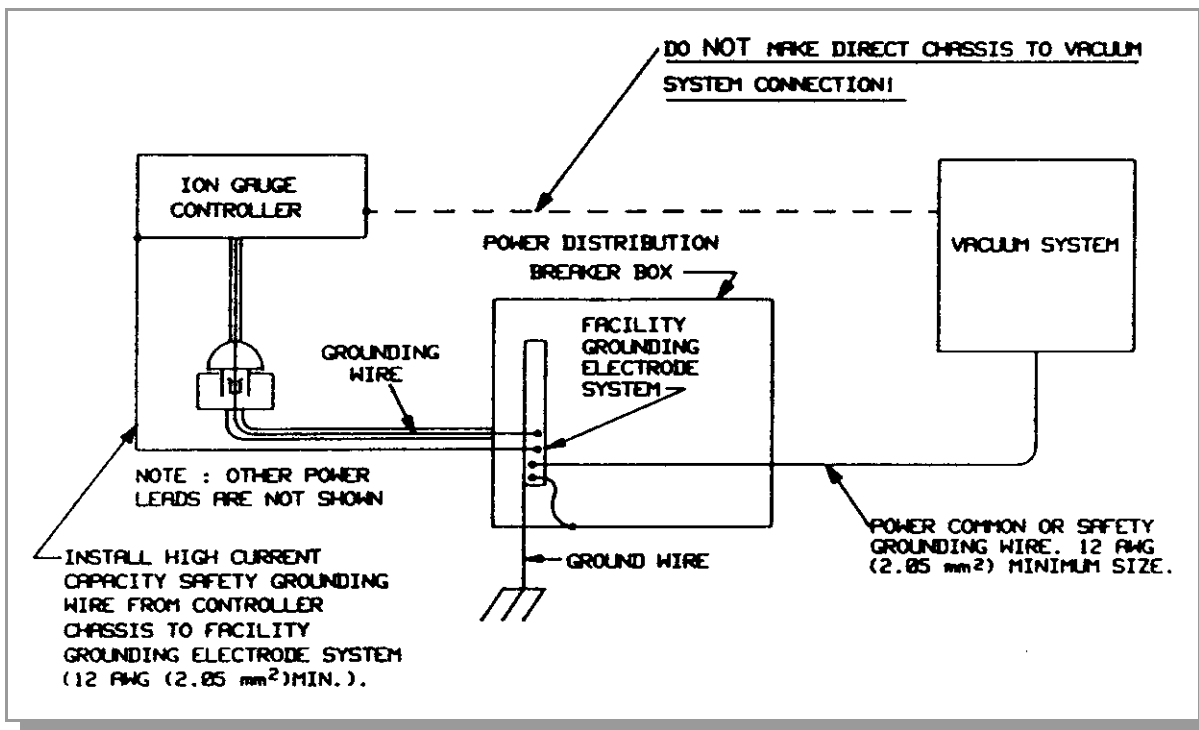

Figure 1-9 Correct System Grounding.
4. If the voltage change in Step 3 is greater than 17% due to the placement of the shunt, it complicates the measurement. The commonality of the grounds may be satisfactory and the coupling poor, or the commonality could be poor! Your electrician should be asked to check the electrical continuity between these two ground systems. The placement of a second ground wire (dashed line in Figure 1-9 on page 12) between the vacuum chamber and the power supply chassis is NOT a safe answer, for large currents could flow through it. Professional help is recommended.